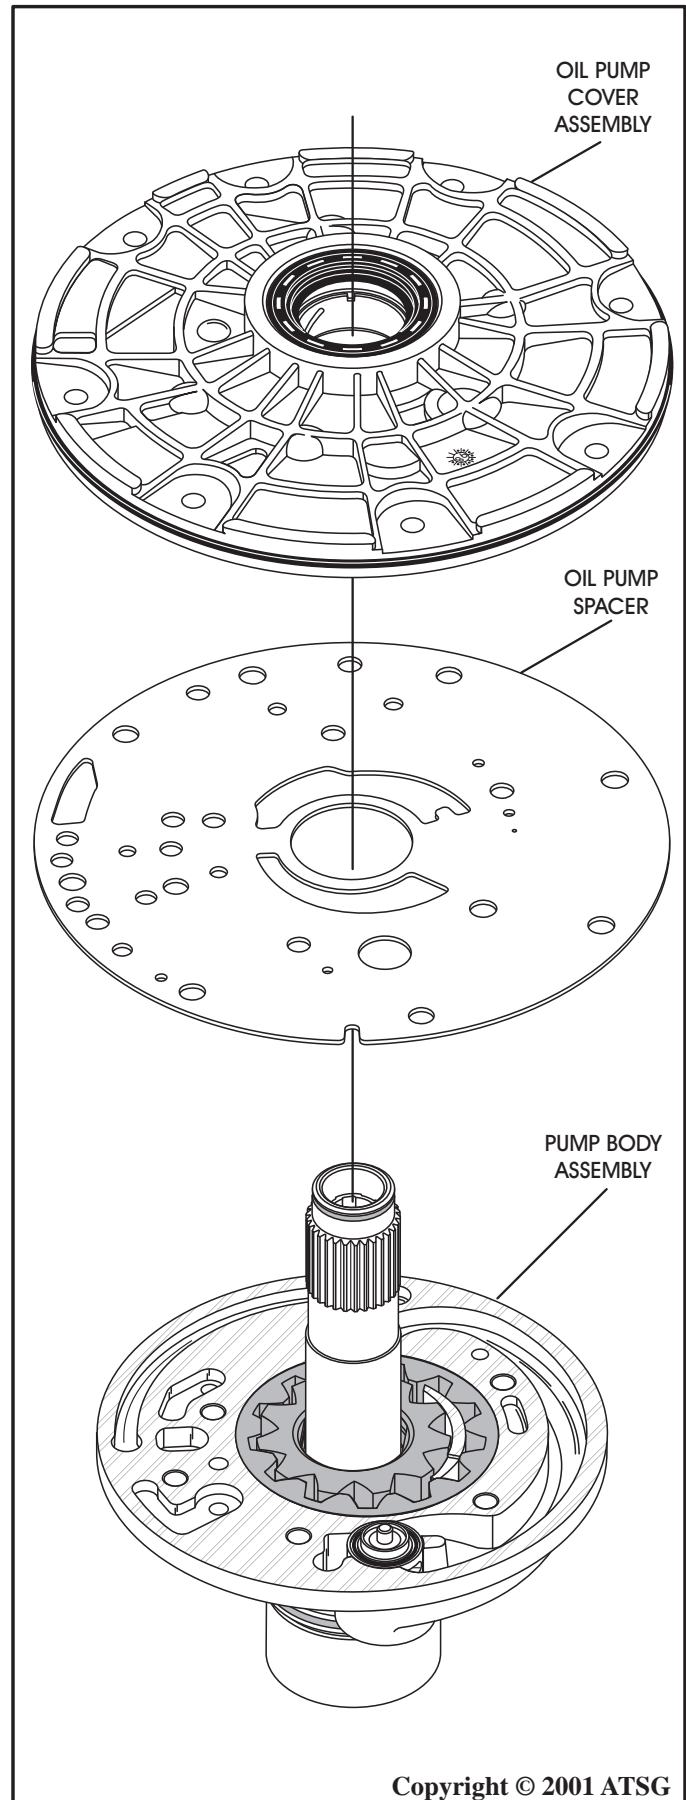

Figure 59
14. Place pump body and stator shaft assembly on bench with shaft facing up (See Figure 59).
15. Install oil pump spacer plate and pump cover onto pump body, as shown in Figure 59.